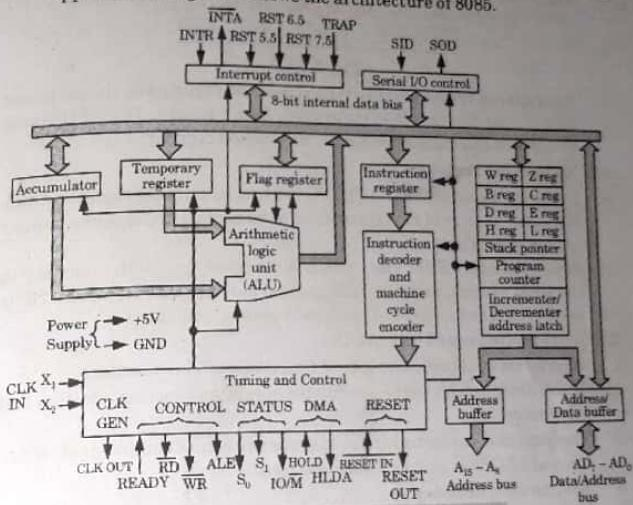

Fig. 2.3.1. Internal architecture of 8085.
- B. **Internal architecture or functional block diagram** : The 8085 is an 8-bit, general-purpose microprocessor that is ideally suited to many applications. Fig. 2.3.1 shows the architecture of 8085.